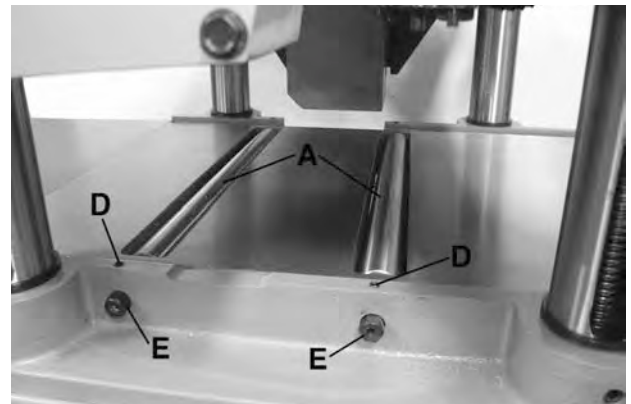
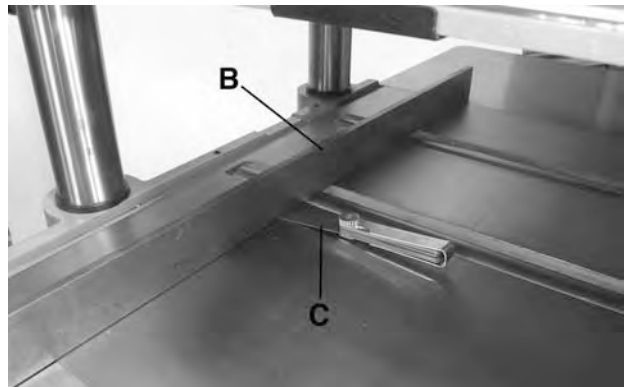

FIGURE 28
FIGURE 29
Your planer is supplied with two table rollers (A) Fig.28 which aid in feeding stock by reducing friction and turn as the stock is fed through the planer. It is not possible to give exact dimensions on the proper height setting of the table because each type of wood behaves differently. As a general rule, however, when planing rough stock the table rollers should be set **HIGH** (0.002" to 0.020") above the table surface and when planing finish stock the table rollers should be set **LOW**, 0.001" above the table surface or level with the table surface.
2. Lay a straight edge (B) Fig.29 across both rollers and with a feeler gauge (C) underneath the straight edge as shown, adjust height of table rollers by loosening set screws (D) Fig.28 and turn eccentric screws (E) Fig.28 to raise or lower table rollers. Table rollers must be adjusted on the opposite end of table in the same manner. The table rollers must always be set parallel to the table.
IMPORTANT: The eccentric screws (E) Fig.28 on both sides of the planer are on eccentrics and care should be taken when adjusting to keep the rollers on leading the stock to one side or the other. This can be accomplished by turning eccentric screws (E) Fig.28 clockwise to raise or lower the rollers and turning the two eccentric screws on the opposite end of the rollers counterclockwise or vice versa.